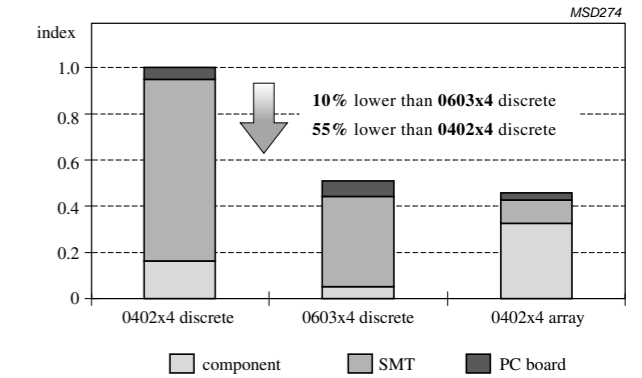

Fig. 2 Total cost savings greater than 40% is just one of the benefits offered by Phycomp's new 4-resistor array
- **Total cost saving greater than 40% in customer application** (Fig. 2).